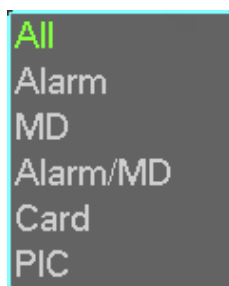

Figure 2-17
- **Picture backup.** Set the corresponding time, channel and then select PIC from the dropdown list. See Figure 2-17. Click the **Add** button and then select the pictures. Click the **Start** button to copy the specified pictures to the selected portable devices.